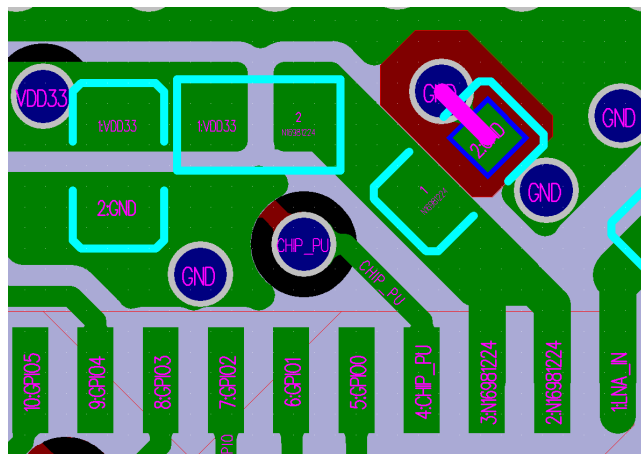

Figure 16: ESP32-S3 Analog Power Traces in a Four-layer PCB Design
- As shown in Figure 16, it is recommended to connect the capacitor to ground in the LC filter circuit near VDD3P3 pins to the fourth layer through a via, and maintain a keep-out area on other layers, so as to further restrain harmonic disturbance.